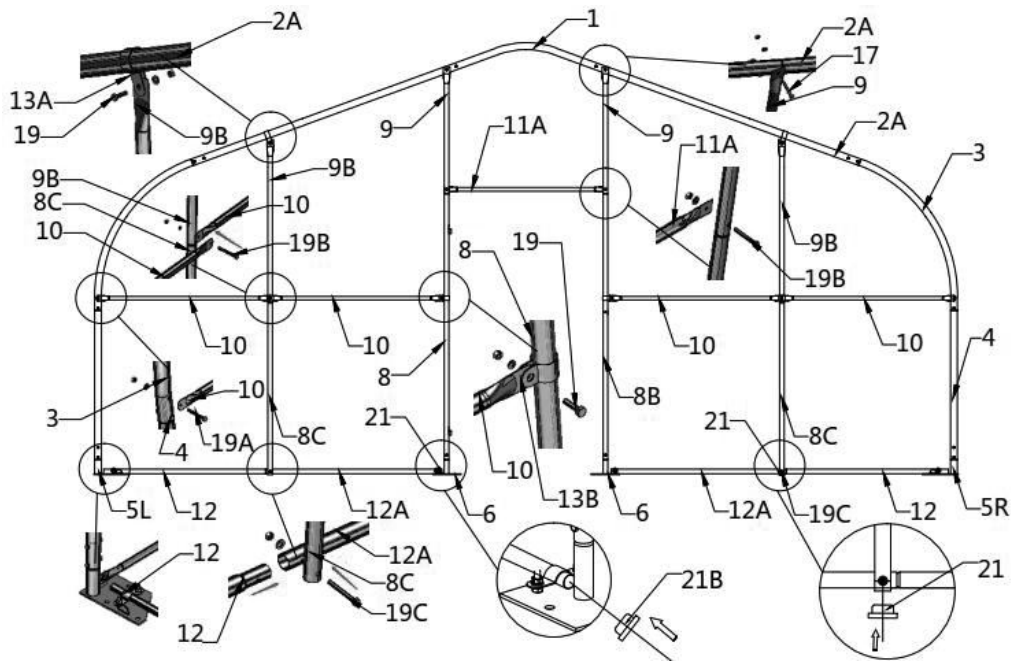

Figure 9
Step 6 : Install the remaining parts on the front truss (refer to figure 9)
- (1) Door frame lower tube (#8)